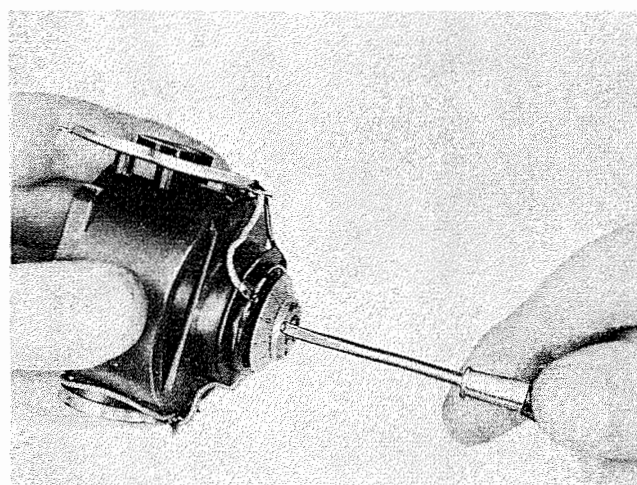

Figure 37
b. Loosen the stop screw on the compensator weight (figure 37) and unscrew the weight.
a. Loosen the stop screw on the compensator weight (figure 37) and unscrew the weight.